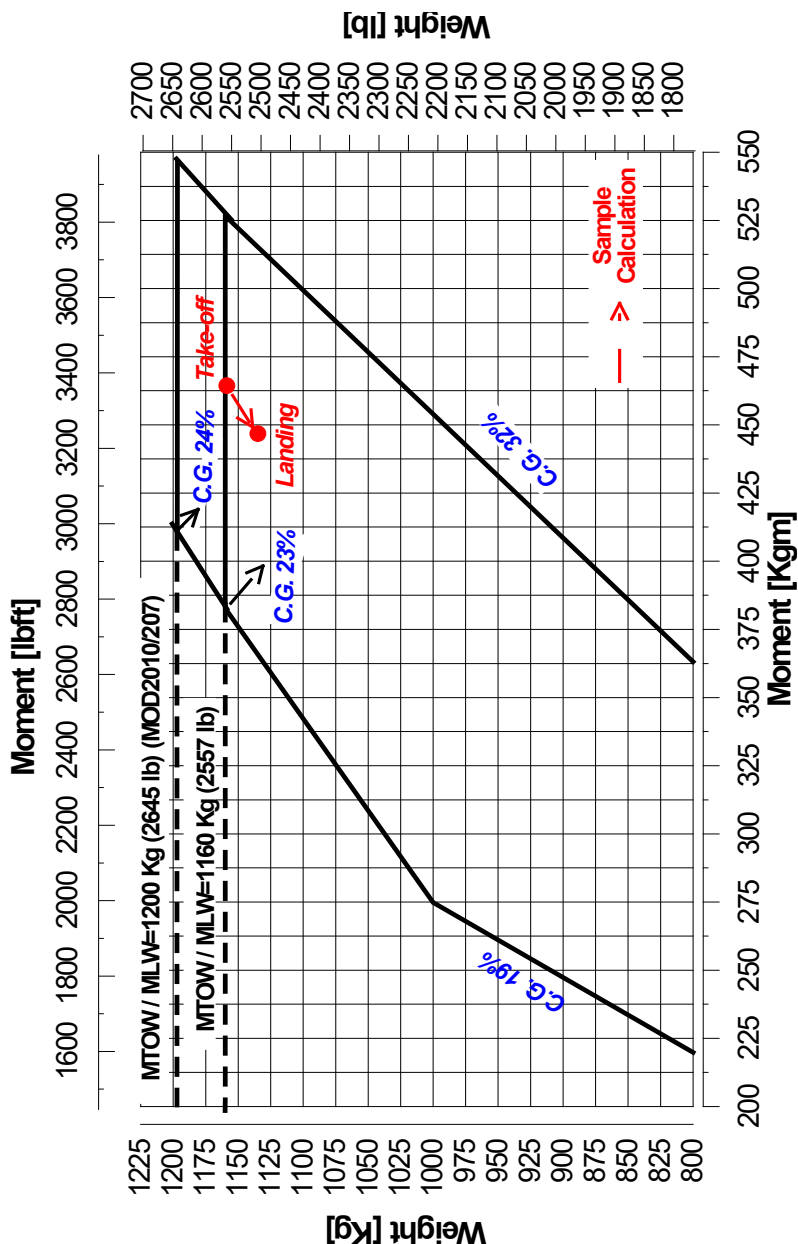

Figure 6-4 – Weight Moment Envelope
In this subsection, the procedure to be used for the determination of aircraft weight and balance in flight is described. The weight and moment obtained must fall within the approved Weight-Moment Envelope (Figure 6-4). The procedure explained requires the use of:
- Weight-Moment Envelope (Figure 6-4)
7. Locate on Weight-Moment Envelope (Figure 6-4) the points (weights and moment) corresponding to the take-off and landing conditions. If the points fall within the envelope, the loading condition meets the weight and balance requirements.